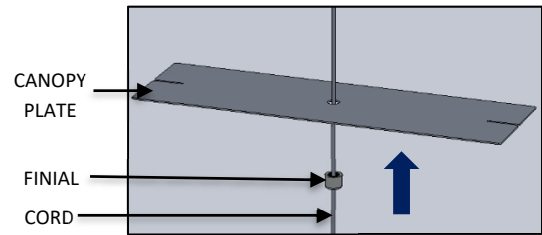

FIG. 9 – CANOPY PLATE AND FINIAL INSTALLATION
4. Pass the FINIAL and the CANOPY PLATE through the CORD as shown in FIG. 9.